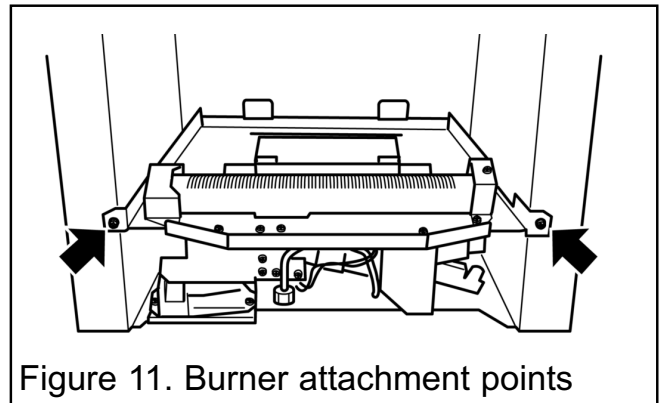

Figure 11. Burner attachment points
1. Detach the burner unit from the convection box by removing two screws (See figure 11). Lift the burner unit clear.